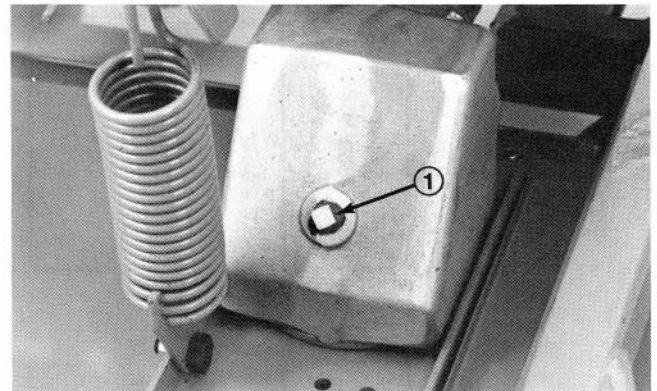

Figure 11
2. Lower cutting unit so castor wheels are on a level surface. Be sure all height-of-cut pins are in the same hole locations. Remove filler plug (Fig. 11) from gear box and check level of lubricant. If level of lubricant is low, add SAE 10W-40 or 10W-30 SF engine oil until level is up to bottom of filler hole. Wipe any metal particles off filler plug and install filler plug.